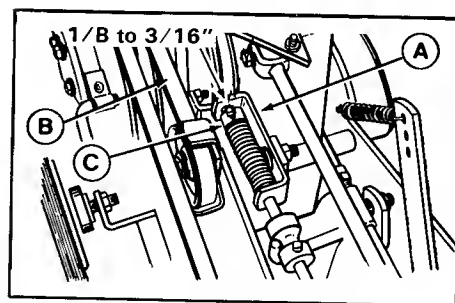

Figure 28. Neutral Adjustment
- d. Place vehicle motion lever in forward drive position. Make sure the distance between rod guide (A, figure 28) and set collar (C) is 1/8 to 3/16 inch (3 to 5 mm). If not, place shuttle control in neutral, loosen setscrew, and move set collar (C) and guide (A) forward to increase the distance or back to decrease clearance. Retighten the setscrew. Shift into forward drive and recheck adjustment.